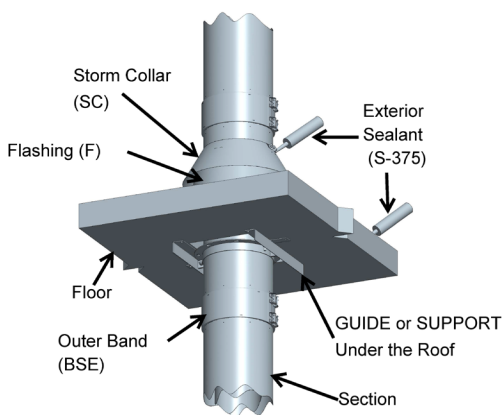

Figure 64b - Installation of Flashing- View under the Roof
3. For lateral stability, supports or guides must be used. The Heavy Duty Floor Guide (WSHD) must be installed either on top or under the roof (See Figure 64b for guide under the roof). Any supports (AP, APL or WSHD) or a Full Angle Ring must be installed below.